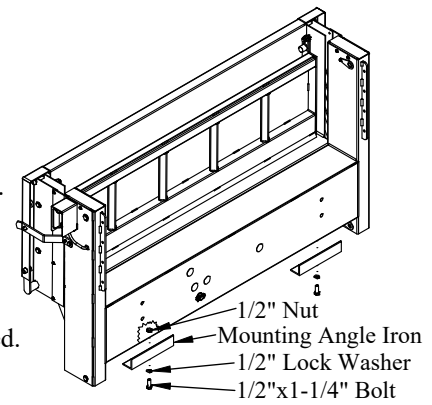

Figure 19: Mounting angle iron location.
1. **Install** the two (2) mounting angle irons to the bottom of the liftgate (Figure 19).